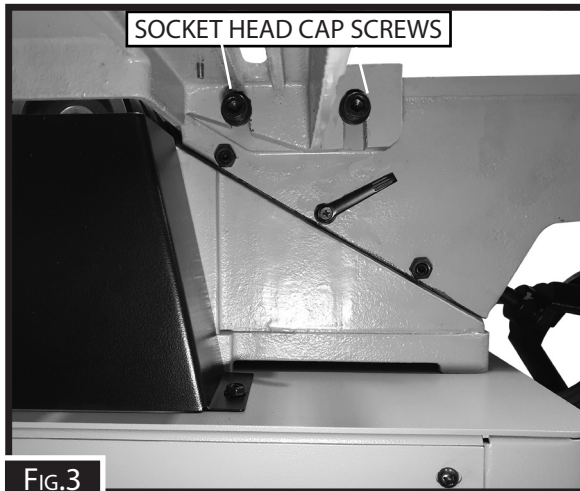

FIG.3
4. Remove fence support - by loosening the two cap head screws. (Fig.3)